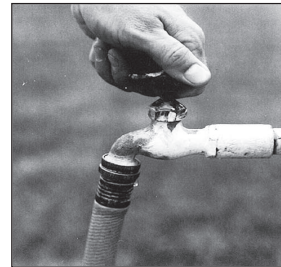

Figure 5
6. Turn water source on — Figure 5.